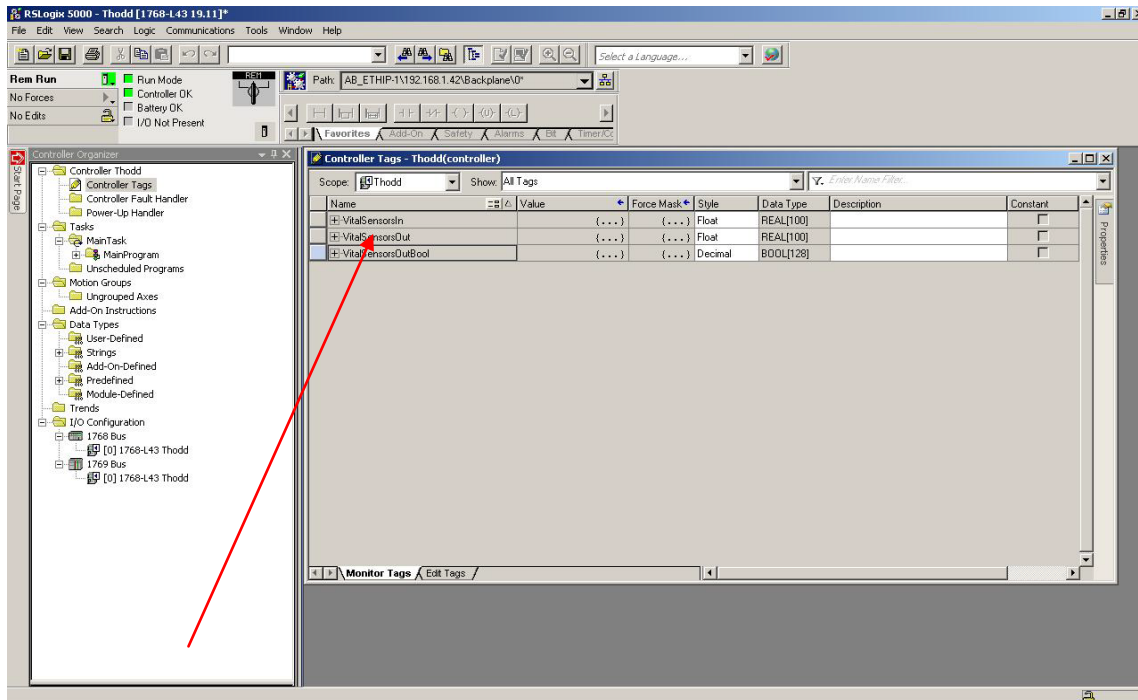

Figure: 11
10. Put PLC in run mode. See *Figure 11* Below.